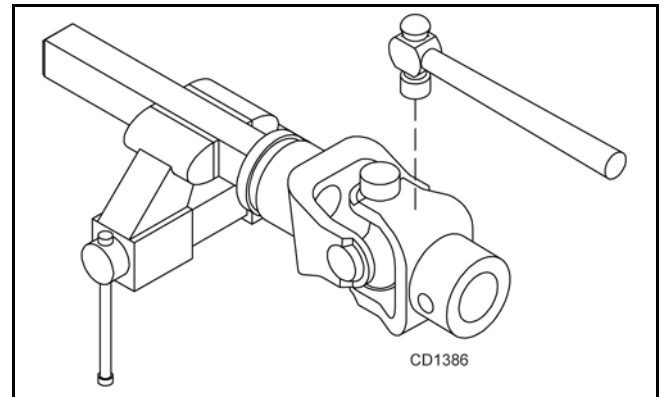

Figure 17
2. With snap rings removed, support drive in vise, hold yoke in hand and tap on yoke to drive cup up out of yoke. See Figure 17.